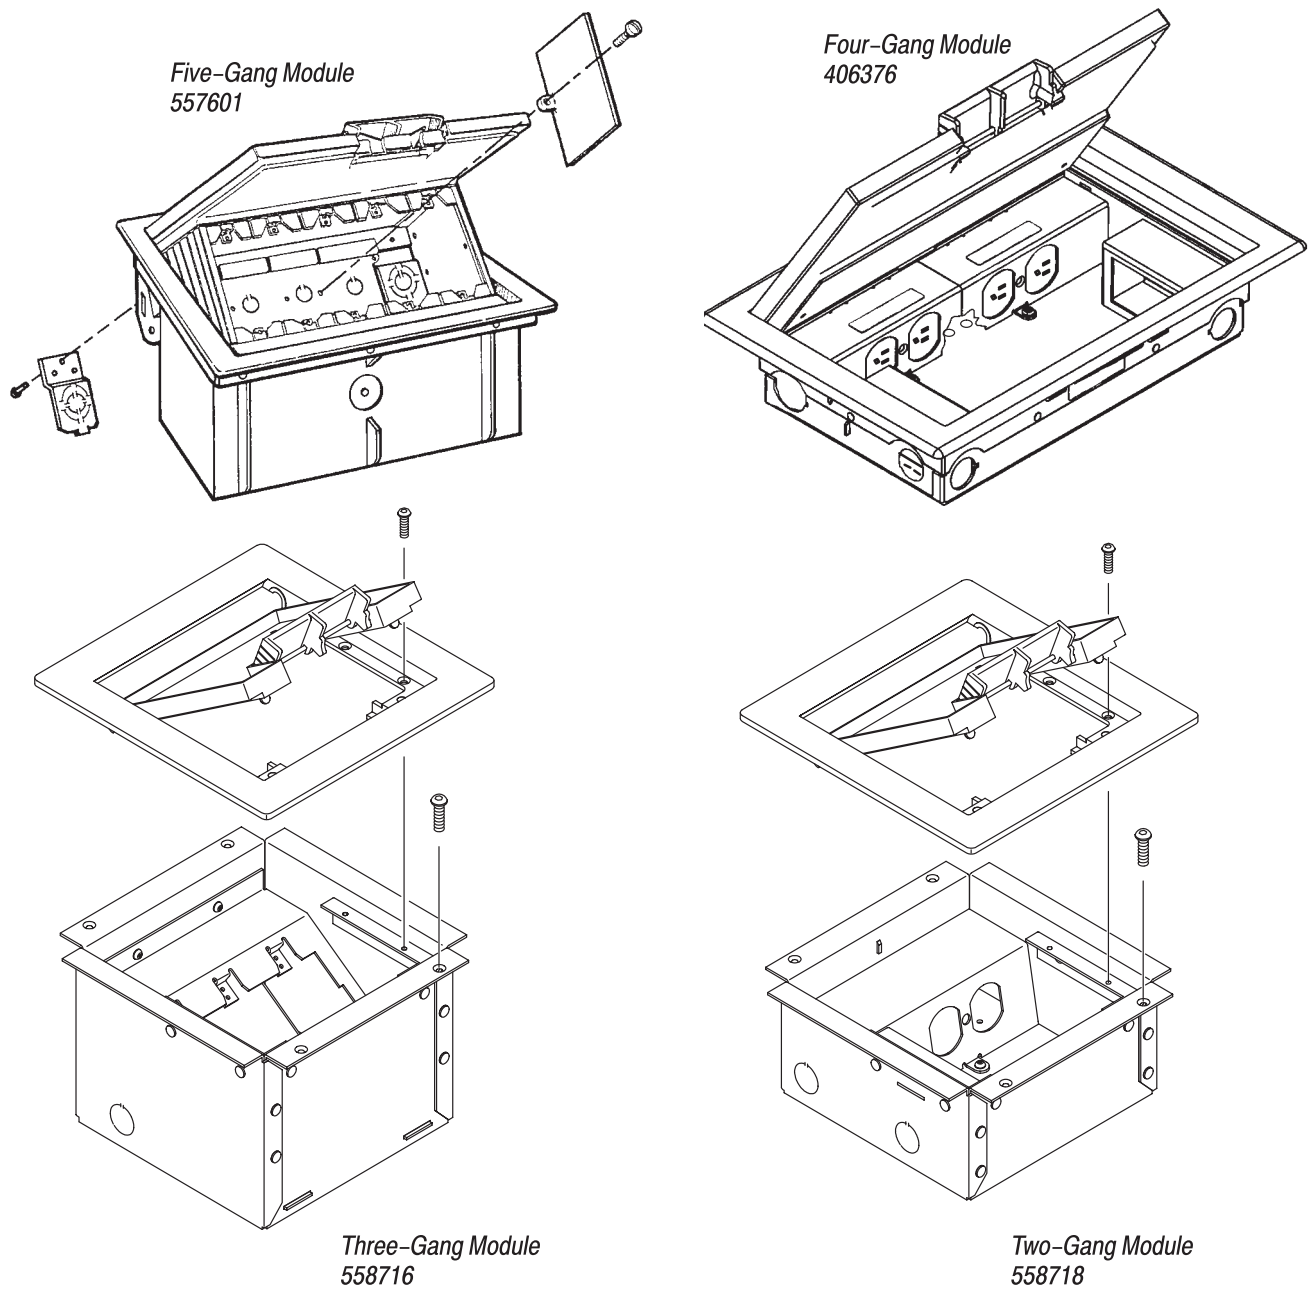

Figure 2
3.3. Workstation Modules (Figure 2)